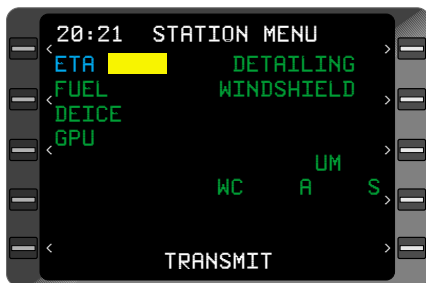

Figure 8-35
- ENTER** Key - DEPRESS. The **STATION MENU** Page is displayed. See Figure 8-35.